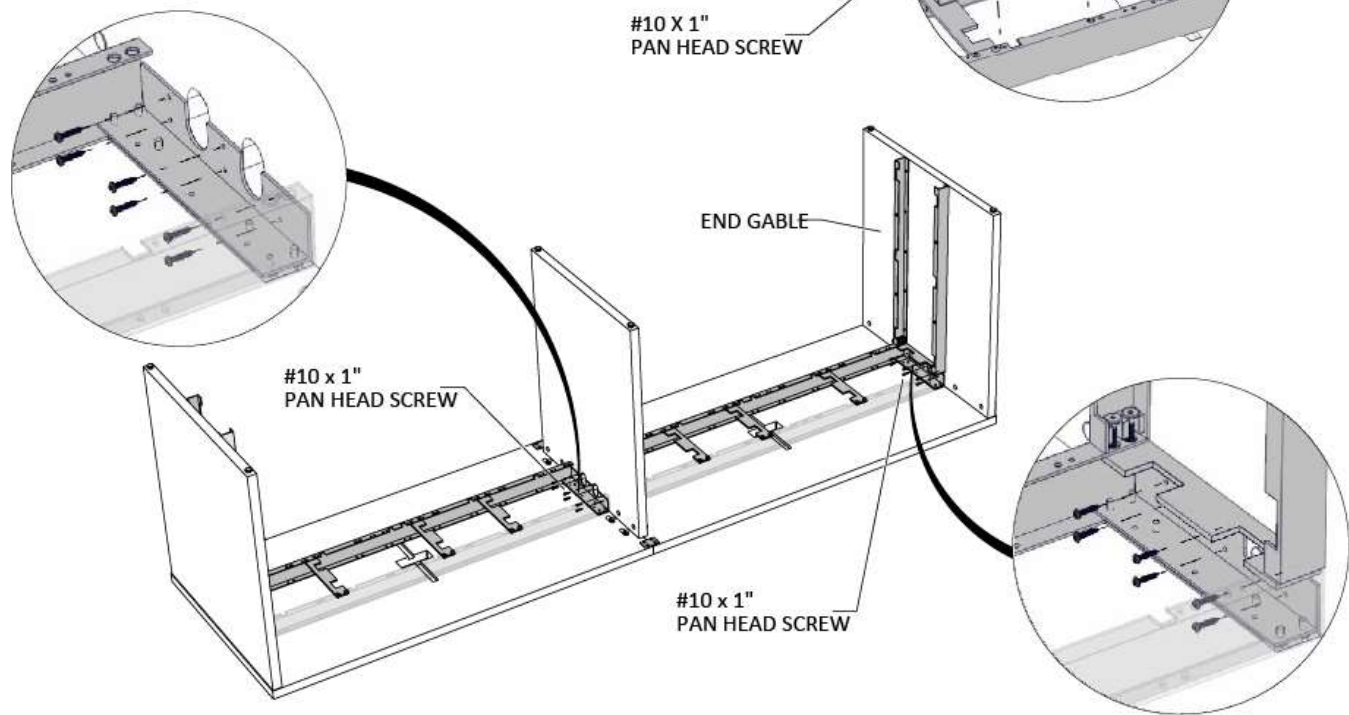

Figure 11
- 12. Securely fasten the bridge to gable, using #10 X 1" Pan Head Screws, (Figure 11).